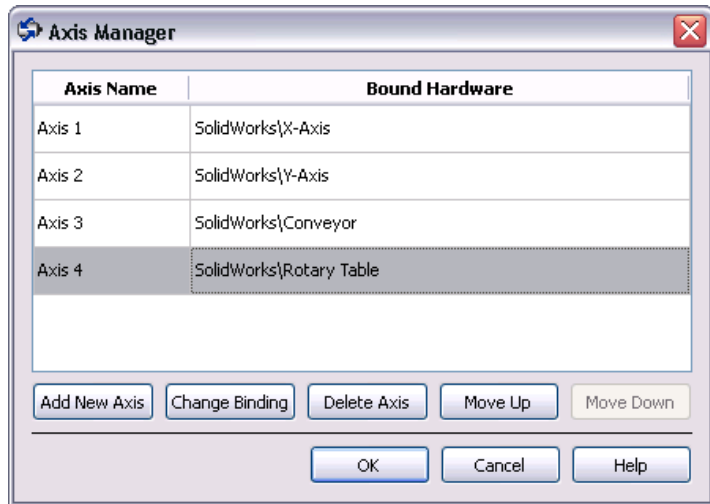

Figure 2. Axis Manager Dialog Box
1. Right-click **My Computer** in the **Project Explorer** window and select **New»NI SoftMotion Axis** from the shortcut menu to open the **Axis Manager** dialog box, shown in Figure 2.